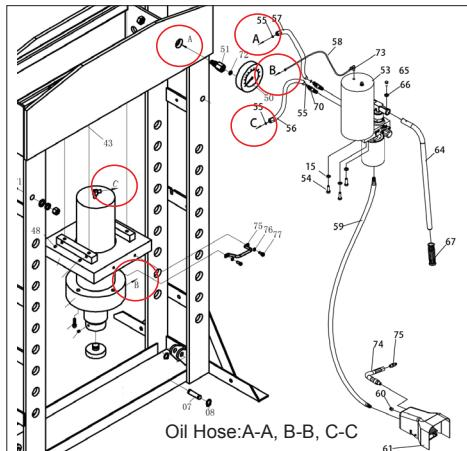
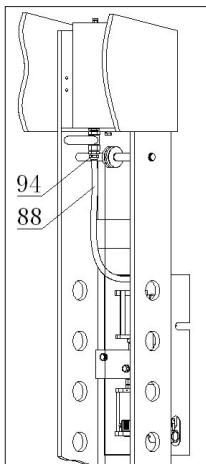
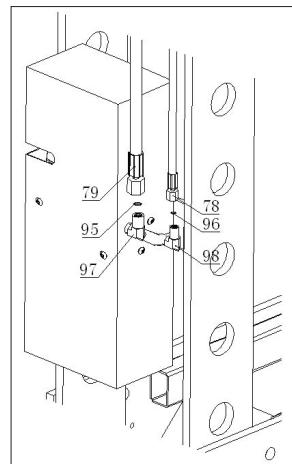

Fig.08
Fig.10
Fig.11
- Assemble oil hose :Fig.08 ( WP75P ), Fig.10 ,Fig.11 ( WP100P ).
- Operate by air: Depress the air foot valve(61,Fig.08)